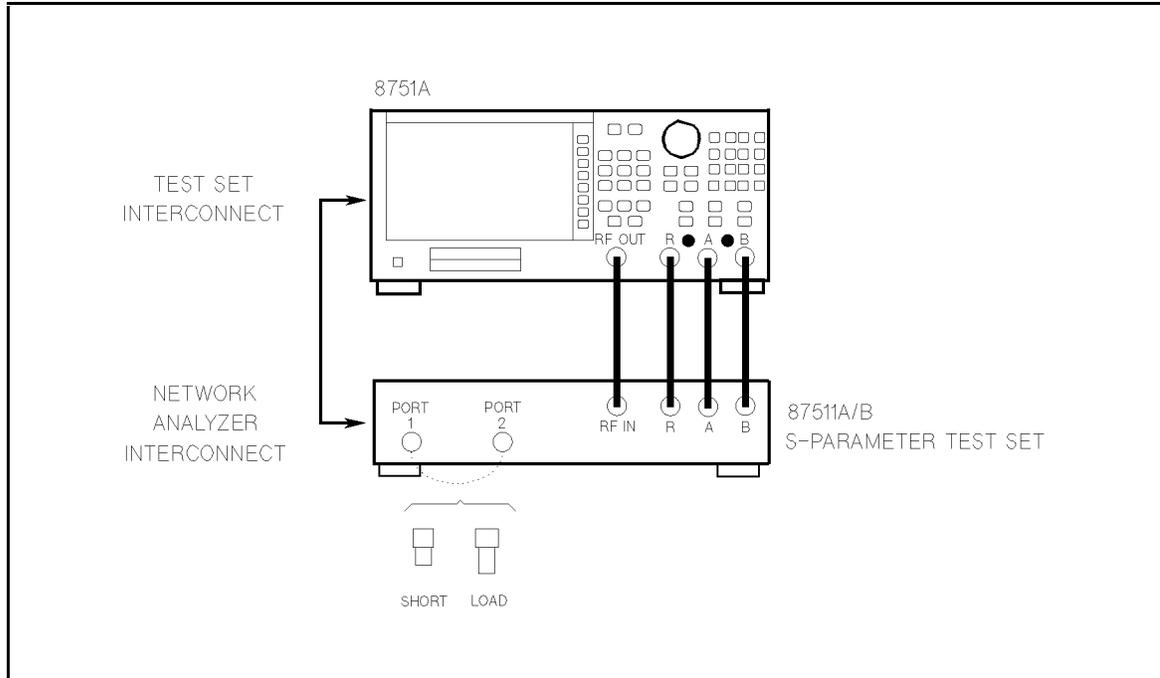

Figure 4-1. Directivity Test Setup
1. Connect the equipment as shown in Figure 4-1.